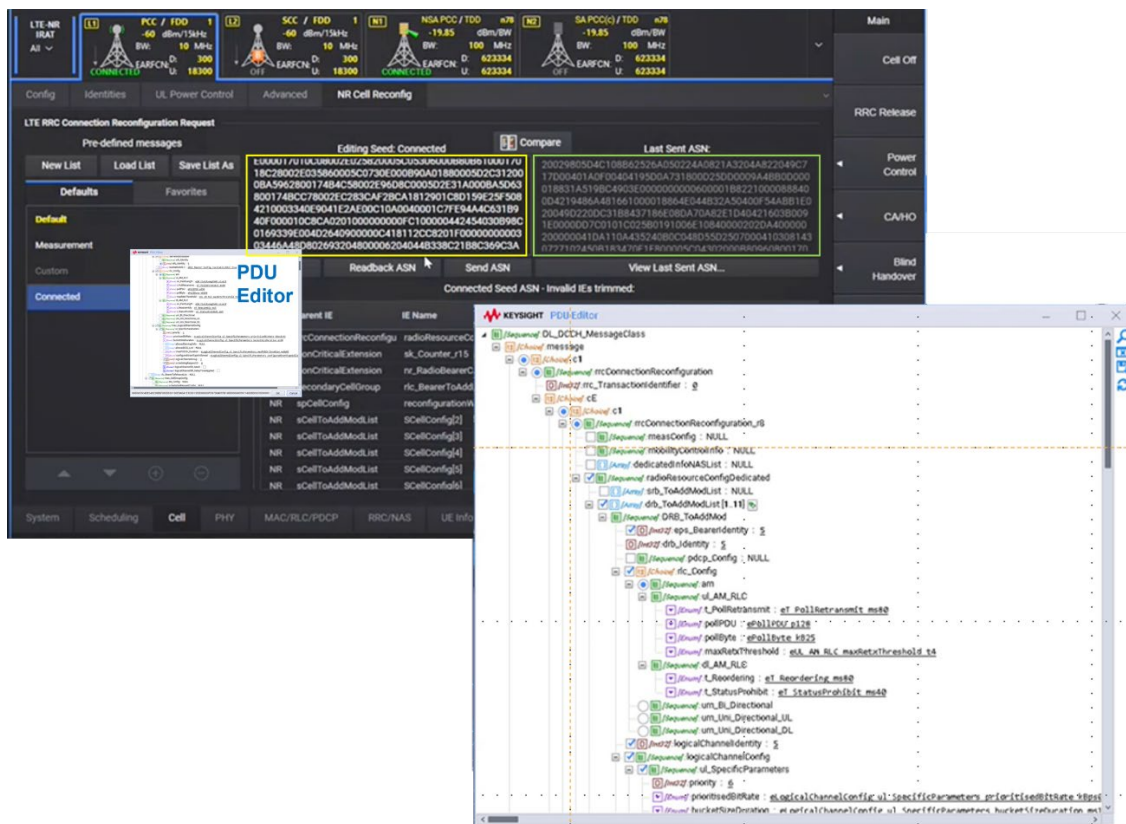

Figure 14. Modifying the 5G NR RRC reconfiguration using the PDU Editor
- Tune RRC settings to enable interoperability at early stages (Figure 14)